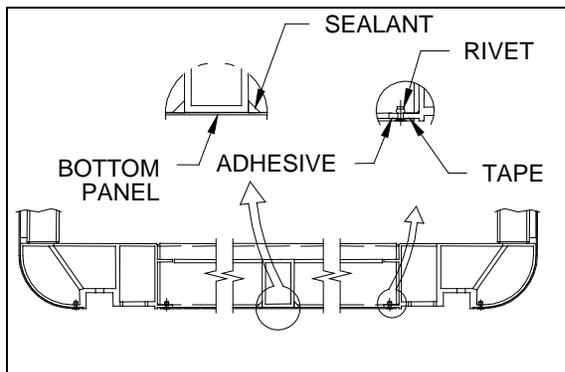
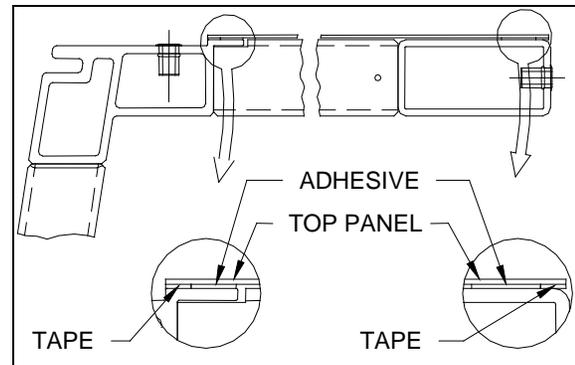

FIGURE 46 : TOP AND BOTTOM PANEL INSTALLATION
FIGURE 47 : TOP PANEL INSTALLATION
2. Remove panel rivets with a 1/8" drill bit, a hammer and a punch (figure 46).
- See figure 46 and figure 47 for both bottom and top panel adhesive, sealant and tape position.